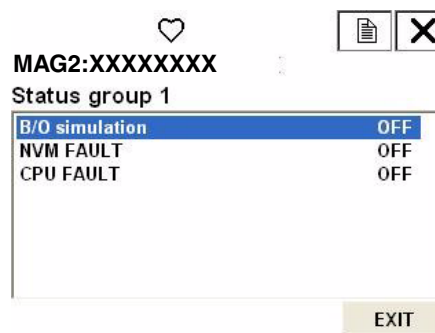

Figure 149.
2. There are 3 groups. Each group has different items to be verified. Figure 149 shows an example of “Status group 1”.